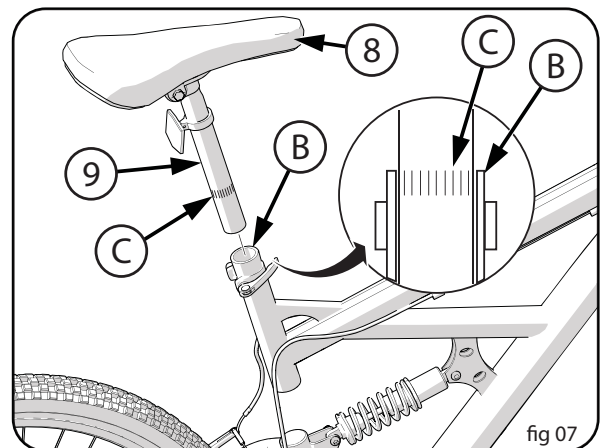

fig 07
- Point the Seat (8) forward and put the Seat Post (9) into the Seat Tube (B) (figs 07, 08).
**WARNING:** To prevent the seat coming loose and possible loss of control, the “MIN-IN” (minimum insertion) mark (C) on the seat post must be below the top of the Seat Tube.